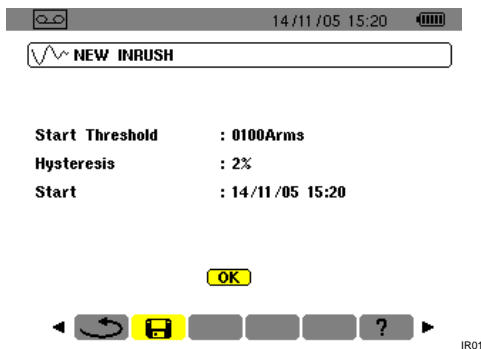

Figure 59: Parameterising of the Inrush recording.
1. From the *New Inrush recording* (Figure 59), screen press ◀ to return to the *Inrush Mode* screen.